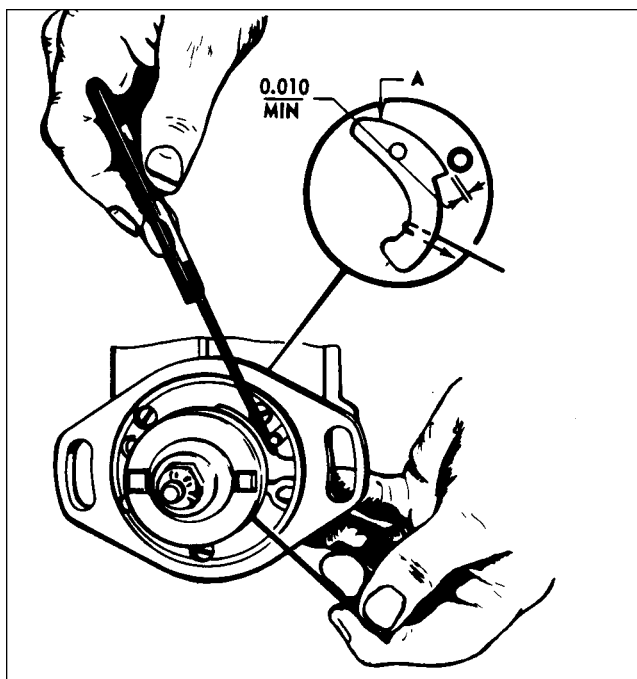

Figure 8A-12. Checking Flyweight Clearance of Impulse Coupling
4. Install the 11-8693 Timing Plate Assembly and the 11-8149 Pointer Assembly of the 11-8150 Scintilla Timing Kit to breaker compartment of magneto. (Refer to Figure 8A-10.) Align pointer assembly with the 0 mark on timing plate. Loosen adjusting knob of 11-8465 Rotor Holding Tool and turn rotating magnet in normal direction of rotation until pointer indexes with the respective E gap mark ( $15^\circ \pm 2^\circ$ ). Tighten adjusting knob of 11-8465 Tool and remove the 11-8149 Pointer Assembly from magneto. Using a timing light, adjust contact points to just open. This adjustment shall be made by rotating cam, in opposite direction of rotation until contacts just open. While holding cam in this exact position, push cam on magnet shaft as far as possible with the fingers. Extreme care must be exercised in this operation. If cam adjustment is changed in the slightest degree, the timing of the magneto will be thrown off. Do not drive cam on shaft with a mallet or other instrument. Tighten the securing screw thereby drawing the cam down, evenly and tightly. Torque screw to 16-20 inch-pounds. Loosen the 11-8465 Rotor Holding Tool adjusting knob and return rotating magnet to neutral position. Reinstall the 11-8149 Pointer Assembly over 0 mark on timing plate. Rotate magnet shaft in normal direction of rotation and check for opening of main contact points at E gap setting ( $15^\circ \pm 2^\circ$ ).